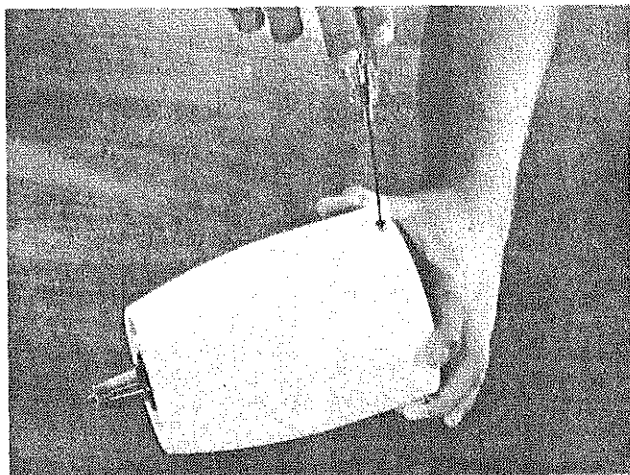

FIG. 4
5. Remove RPM-3 shroud by removing three latch button assemblies with a 1/16" allen screwdriver (Fig. 4). Shroud can then be pulled forward. Note: if allen slots on latch buttons are either filled with paint or rounded off and can't be removed, use pliers to remove assembly and replace latch button assembly (KK-4460).